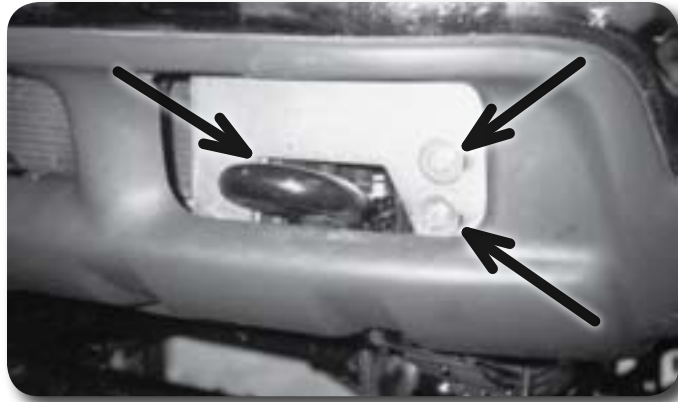

Figure 11
45. Invert the hooks (nuts facing down) and place them in the frame. Attach the hooks using six 7/16" x 3" grade 8 bolts, nuts, and twelve 7/16" USS washers **Figure 11**. Torque hardware to 50 ft-lbs.
46. Install the front bumper on the vehicle using four 7/16" x 1-1/2" bolts, four nuts, and eight 1-3/8" diameter 1/2" washers **Figure 11**. Adjust the bumper according to the measurements taken earlier and torque to 45 ft-lbs.